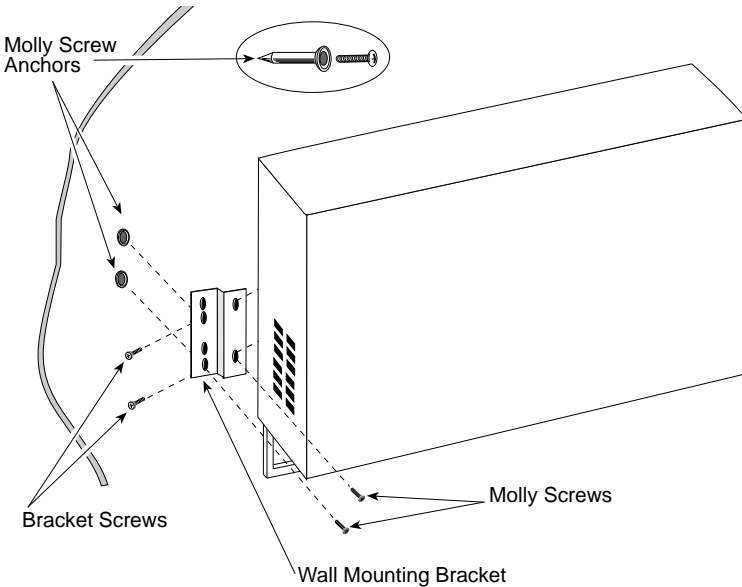

Figure 3-6. Wall Mounting the SEHI
When you wall mount the SEHI, the cable connections must face down. Refer to Figure 3-6 and perform the following steps to wall mount the SEHI.
1. Use the supplied screws to attach the wall mounting brackets to the bottom of the SEHI as shown in Figure 3-6. There are two brackets, one for each side.
6. Position the SEHI on the wall over the anchors and reinstall the four anchor screws to attach the SEHI to the wall, as shown in Figure 3-6. Tighten the four anchor screws.